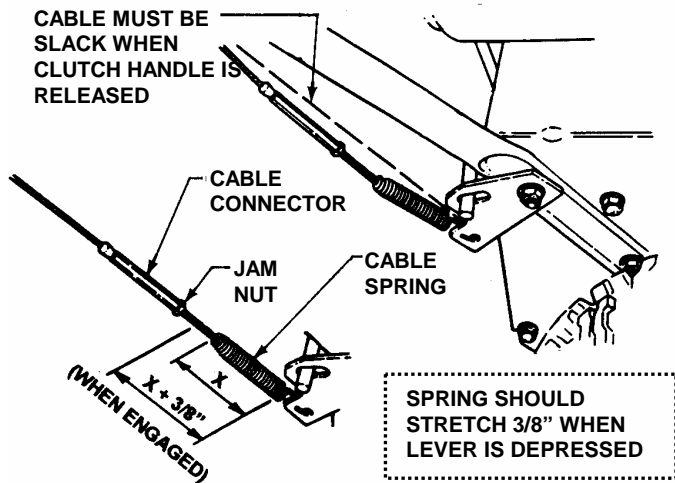

FIGURE 4.1
1. Measure control cable extension from a relaxed position to full extended position. Move control lever against handle. Measure the overall length of the spring. The length of the cable spring should increase by 3/8" when the clutch control lever is depressed. See Figure 4.1.